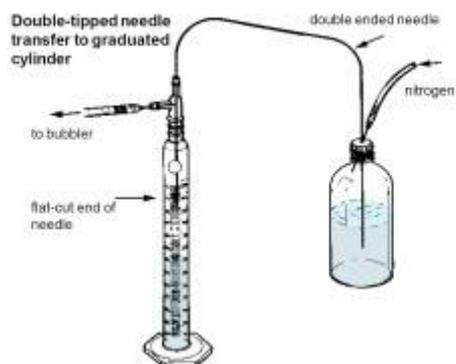

Fig. 3B Double-tipped needle transfer to graduated cylinder
- For an exact measured transfer, convey from the Sure/Seal bottle to a dry nitrogen flushed graduated cylinder fitted with a double-inlet adapter (Fig. 3B). Transfer the desired quantity and then remove the needle from the Sure/Seal bottle and insert it through the septum on the reaction apparatus. Apply nitrogen pressure as before and the measured quantity of reagent is added to the reaction flask.